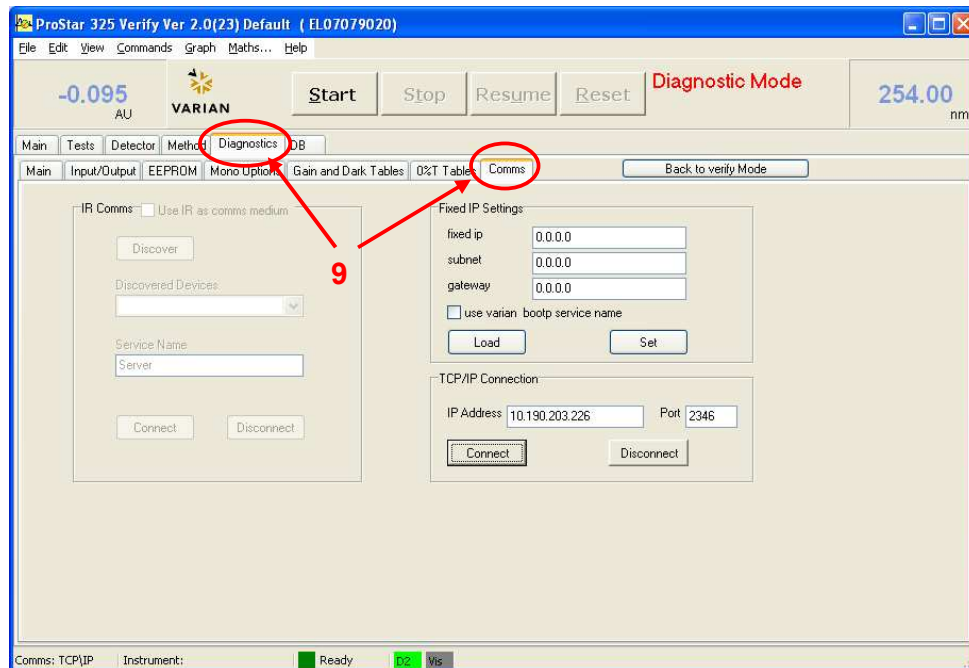

Figure 9: Selecting the Comms Tab in LCVerify
15. Once the detector is communicating to the PC you need to select the *Diagnostics Tab* and the *Comms Tab* (9) from the Diagnostics menu in LCVerify (*Figure 9*).